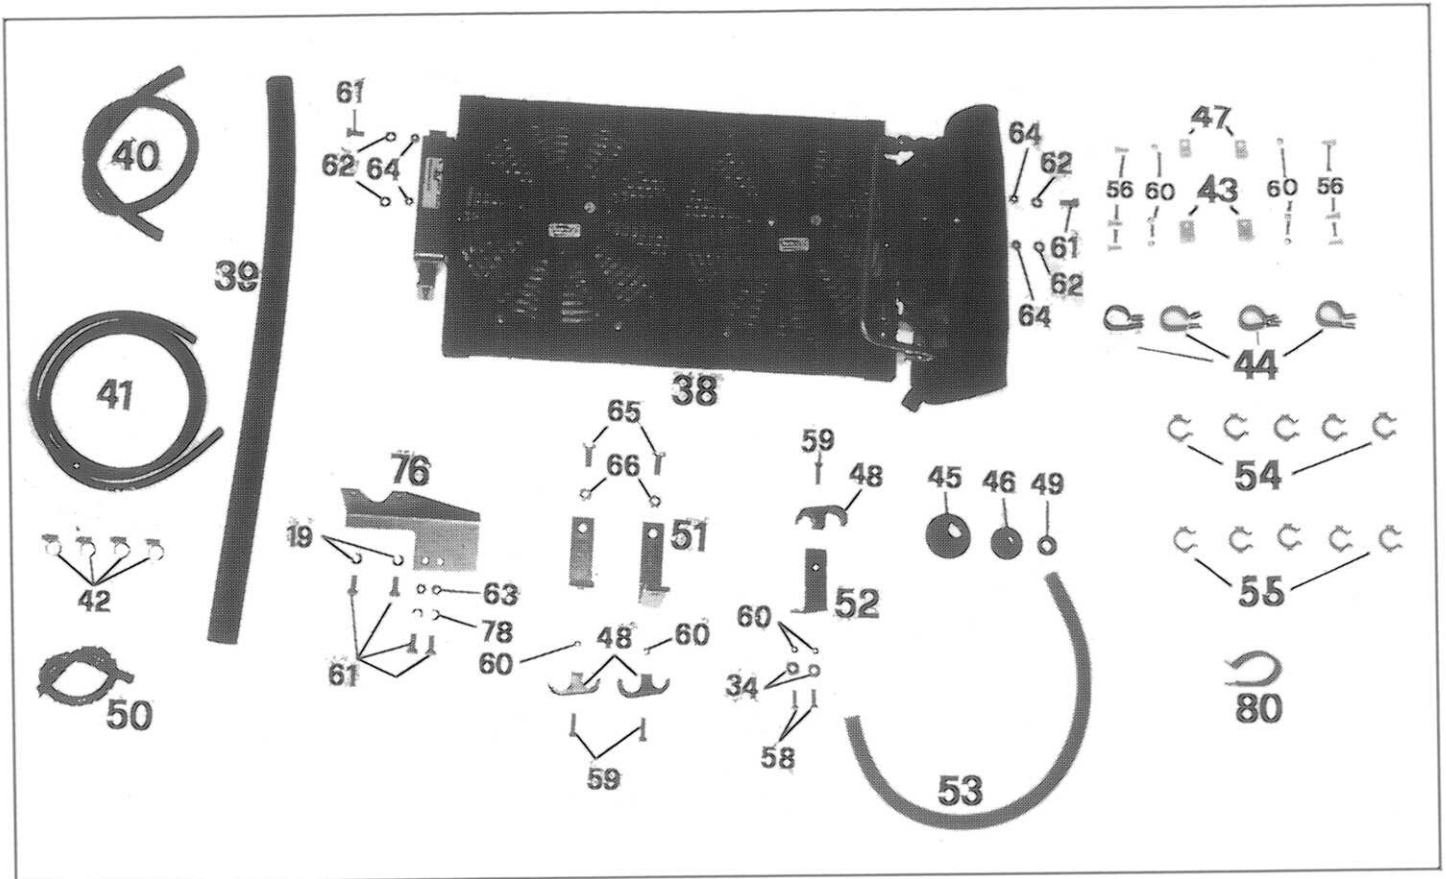

FIG. 1.1
**ELENCO MATERIALE FORNITO (FIG. 1.1 e 2.1) / LISTE DU MATERIEL FOURNI (FIG. 1.1 et 2.1) / LIST OF SUPPLIED MATERIALS (FIG. 1.1 and 2.1)
VERZEICHNIS DES GELIEFERTEN MATERIALS (ABB. 1.1 und 2.1) / LISTA MATERIAL ABASTECIDO (FIG. 1.1 y 2.1)**
ELENCO MATERIALE FORNITO (FIG. 1.1 e 2.1) / LISTE DU MATERIEL FOURNI (FIG. 1.1 et 2.1) / LIST OF SUPPLIED MATERIALS (FIG. 1.1 and 2.1) / VERZEICHNIS DES GELIEFERTEN MATERIALS (ABB. 1.1 und 2.1) / LISTA MATERIAL ABASTECIDO (FIG. 1.1 y 2.1)